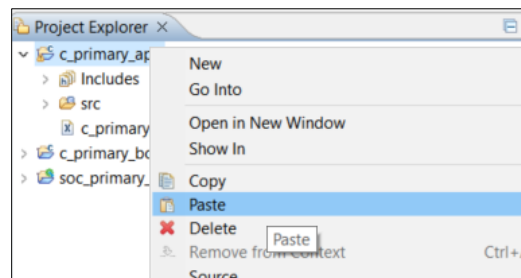

Figure 7.38. Paste in FreeRTOS C project
- Paste it in your main `c_primary_app` project as shown in Figure 7.38.